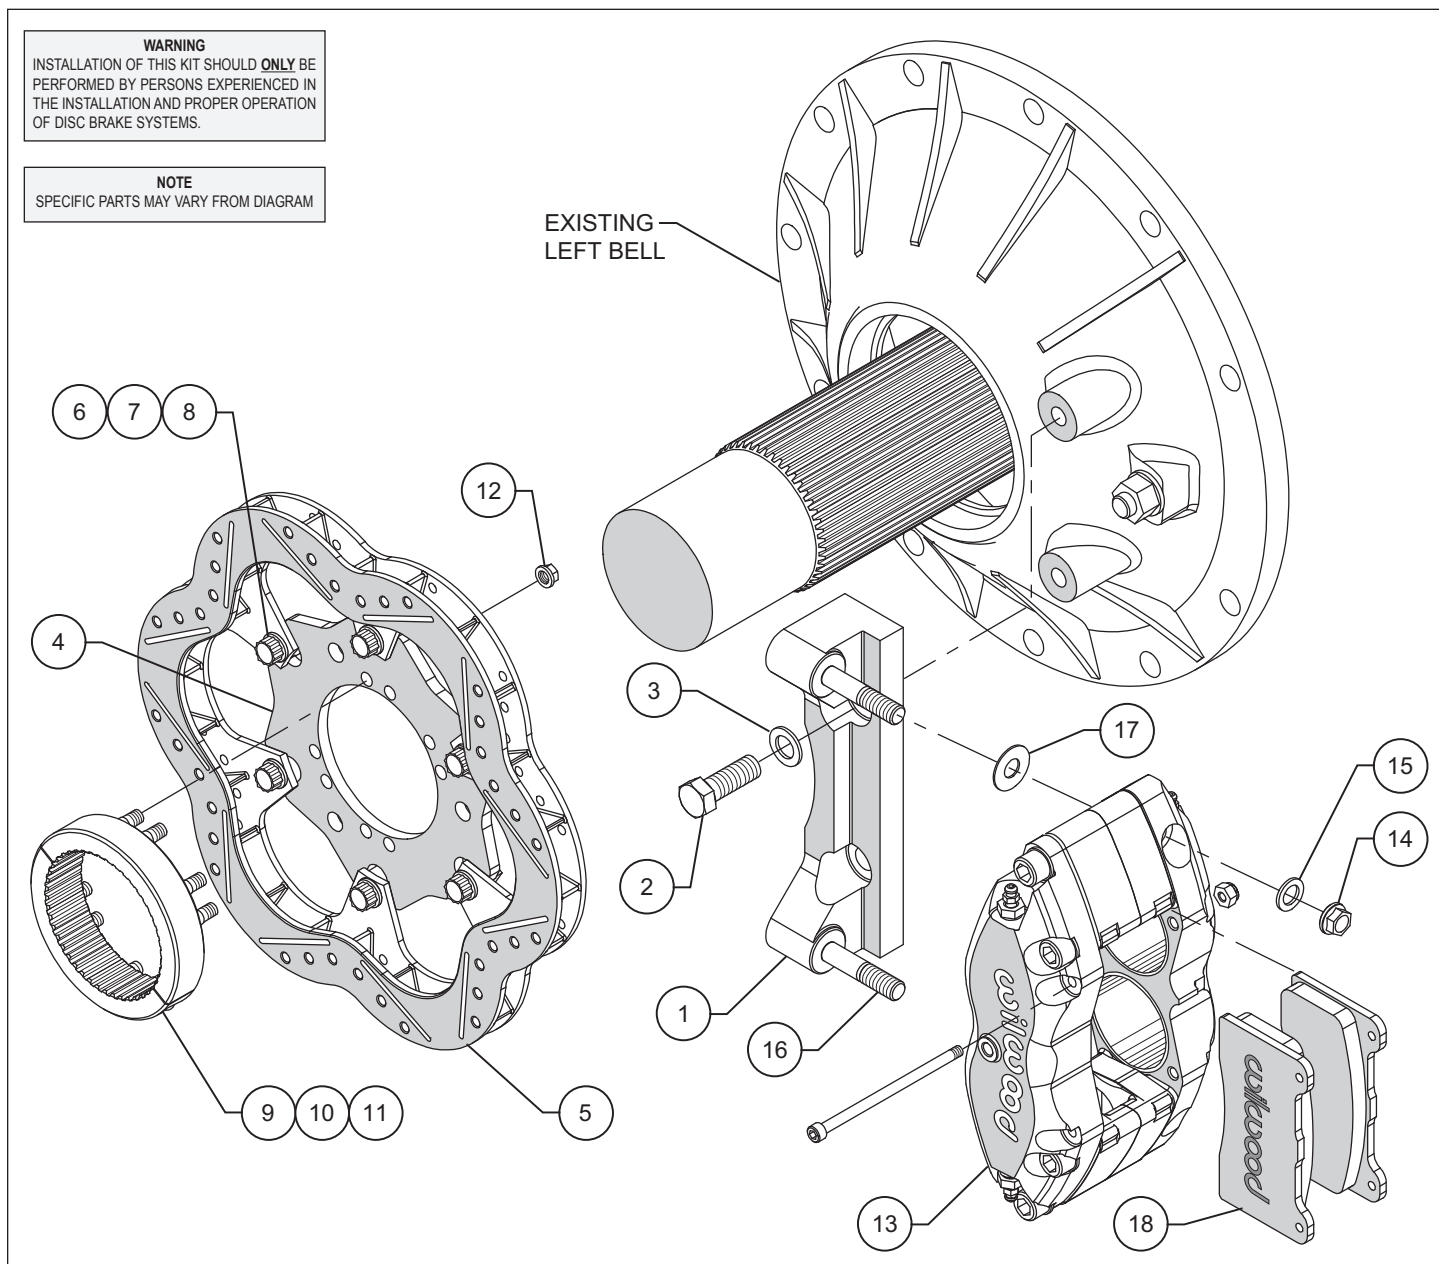

Figure 1. Typical Installation Configuration
• Install the caliper mounting bracket (1) onto the bell housing by first coating bolt threads (2) with red *Loctite*® 271 and sliding bolt (2) through washer (3) through caliper mounting bracket (1) and thread into the bosses on the bell. Torque bolts (2) to 80 ft-lbs. The flat side of the mounting bracket (1) mounts flush onto the mounting bosses, as shown in Figure 1.
• With the T-notches of the rotor adapter (4) facing away from the rotor (5), attach adapter (4) to rotor (5) using bolts (6), washers (7) and t-nuts (8), as shown in Figure 1. Finger tighten. After all t-nuts have been installed, torque bolts in an alternating sequence to 220 ± 20 **in-lbs** (~19 ± 1 ft-lb). Please refer to Wilwood's data sheet DS-669 (available at www.wilwood.com/Pdf/DataSheets/ds669.pdf) for complete t-nut bolt kit installation instructions.